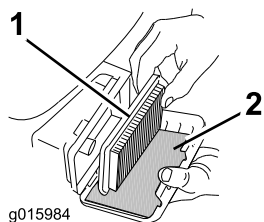

Figure 25
3. Remove the paper air filter and the foam pre-filter (Figure 25).